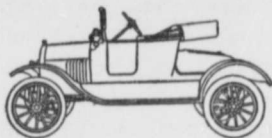

FIG. 1.
- FIG. 1.—The Ford Runabout. The cheapest car made. Price \$345, 2 passenger, 4 cylinder, 20 horsepower.